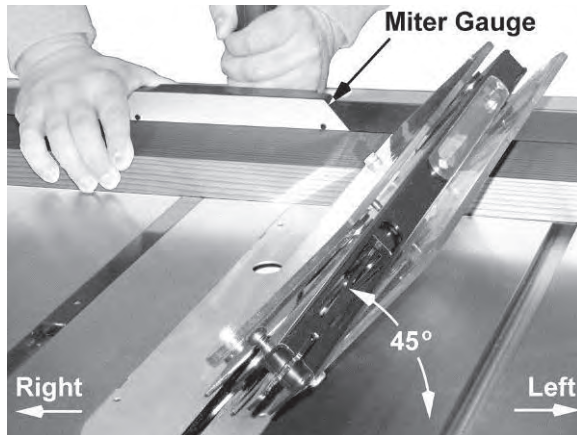

Figure 31
**Bevel Cut** – A bevel cut is a special type of operation where the saw blade is tilted at an angle less than 90 degrees to the table top (Figure 31). Operations are performed in the same manner as ripping or crosscutting except the fence or miter gauge should be used on the right-hand side of the saw blade to provide added safety in avoiding a binding action between the saw blade and the table top. When beveling with the miter gauge, the workpiece must be held firmly to prevent creeping.